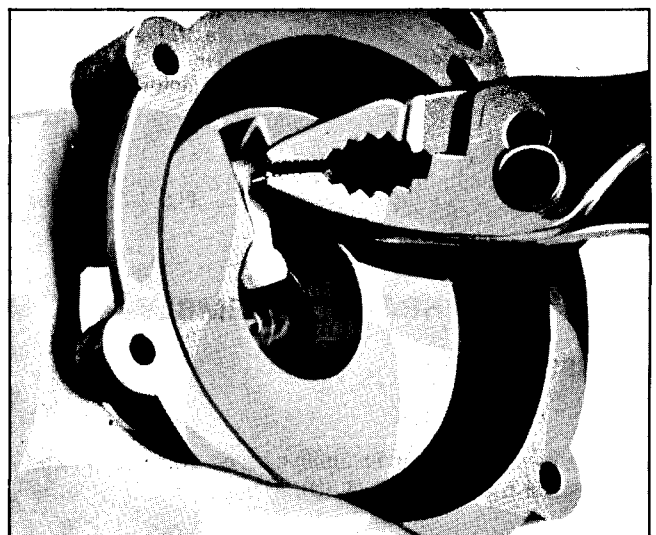

Fig. 4-42 Removing Rocker Arm Pin
6. If necessary, remove rocker and swivel arms. Grip pin with pliers and remove pin (Fig. 4-42).